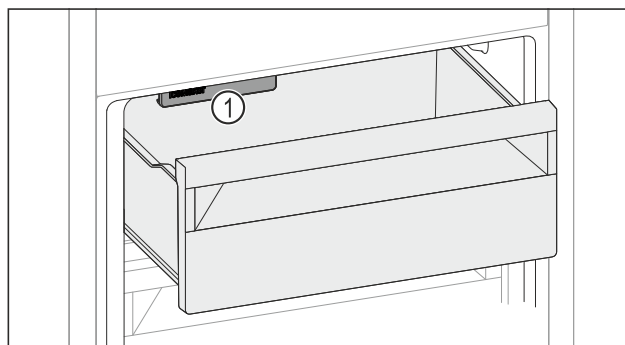

Fig. 178
- Watch out for the IceMaker Fig. 178 (1).